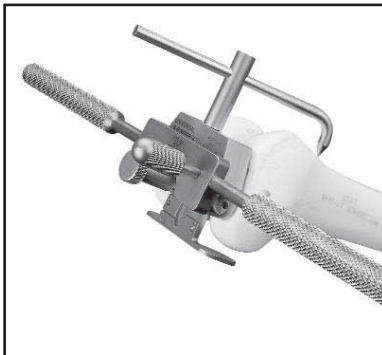

FIGURE 9 |
**NOTE** | In cases with significant wear or severe deformation of the posterior condyles, the 0° guide can be used with a tommy pin to set rotation manually using the A-P or epicondylar axes. | **FIGURE 9** The tommy pin should be inserted in the lateral hole so rotation will not cause notching of the lateral anterior cortex.